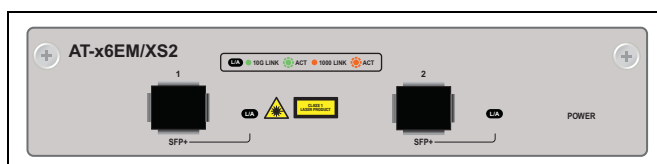

Figure 27. AT-x6EM/XS2 Stacking Module
- ❑ The AT-x6EM/XS2 has two 10 Gbps SFP+ stacking slots, shown in Figure 27. Note that the port speed of the AT-x6EM/XS2 is fixed at 10 Gbps.